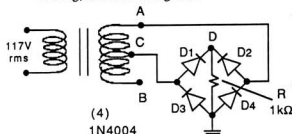

Figure 5.7 A Full-Wave Bridge with Resistor Load
For purposes of comparison with previous experiments, we shall continue to use half the total available winding, as shown in Fig. 5.7.
- Connect the circuit as shown in Fig. 5.7, using your DVM to measure the ac and dc voltages between A and C, and between D and ground. Display the waveform at D on your oscilloscope.
- ** • Repeat the previous explorations with the circuit of Fig. 5.7, but using transformer connections A and B. Be very careful with load heating.